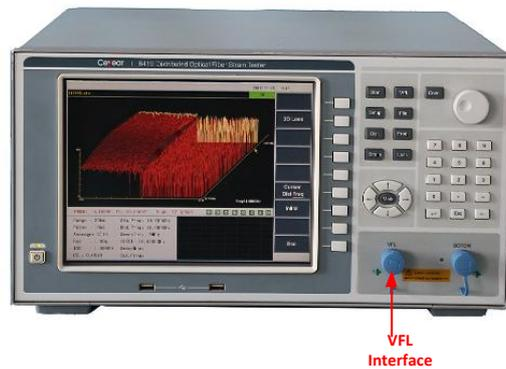

Figure 8-18 VFL interface with protective cover
Step 1: Connect the fiber under test to the VFL optical interface of front panel. VFL optical interface is shown in Figure 8-18, for detailed steps, see **Chapter VIII, Section 1.2.**